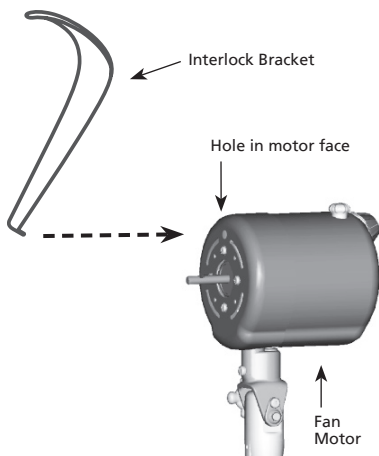

**FIGURE 11**
24. With the Hunter logo facing forward and upright, engage the tabs on the lower part of the Front Grille into the rim of the Back Grille, as shown in Figure 11, arrow 1. Then, move the top of the Front Grille as shown in Figure 11, arrow 2, so that the tab at the top of the Front Grille snaps under the rim of the Back Grille.